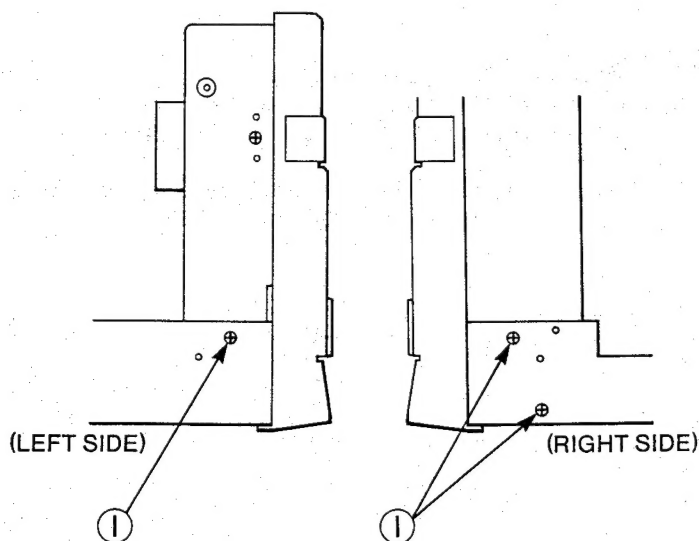

Fig. 5
5. Remove the three screws (I) fastening the Front Panel. Then, Front Panel can be completely separated from the unit. (Fig. 5)